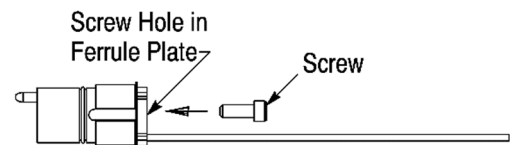

Figure 11
2. Align the end of the ferrule assembly with the appropriate channel cavity of the EB insert, and insert the ferrule assembly into the channel cavity until the O-ring is against the channel cavity. See Figure 11, Detail A. To avoid damage to the fiber, **DO NOT** push on the fiber to install the ferrule assembly.
3. Slide the spring over the fiber until it is against the O-ring of the ferrule assembly. See Figure 11, Detail B.
4. Using the ferrule insertion tool, **push on the spring** until the ferrule assembly bottoms in the channel cavity (the spring will protrude slightly from the cavity). See Figure 11, Detail C.
5. Align the index pin hole of the ferrule plate with the index pin at the back of the EB insert, and slip the fiber into the closest slotted hole in the ferrule plate. See Figure 11, Detail D.
6. Hold the ferrule plate against the EB insert, making sure that the index pin enters the index hole. Thread the screw through the screw hole in the ferrule plate and into the hole in the EB insert. See Figure 11, Detail E. Using the 2-mm hex wrench, tighten the screw to a torque between 0.8 and 1 N·m. Check to make sure that the ferrule plate is now flush with the EB insert.
- Revised and added to the Detail illustrations in Figure 11 to better correspond to the ferrule assembly installation text of Section 5.6. Steps 1 through 6.